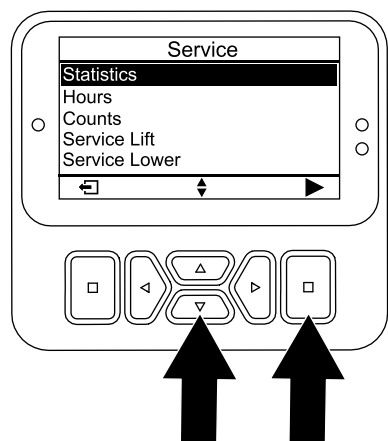

Figure 96
- 5. In the SERVICE screen, press the down button until the STATISTICS option is selected, then press the select button (Figure 96).